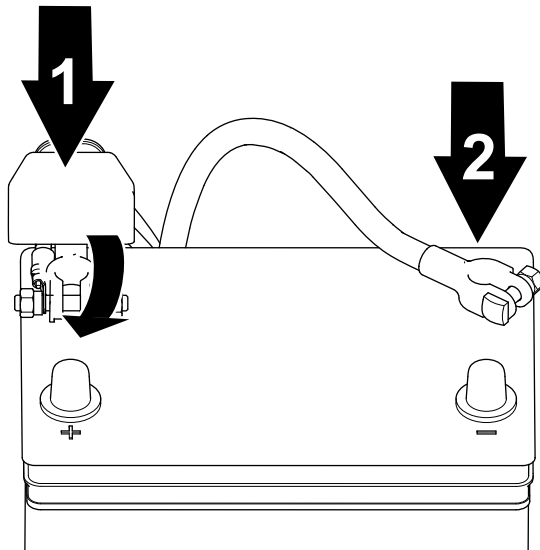

Figure 39
2. Connect the positive cable to the battery and tighten the battery-clamp nut (Figure 39).
3. Connect the negative cable to the battery and tighten the battery-clamp nut (Figure 39).